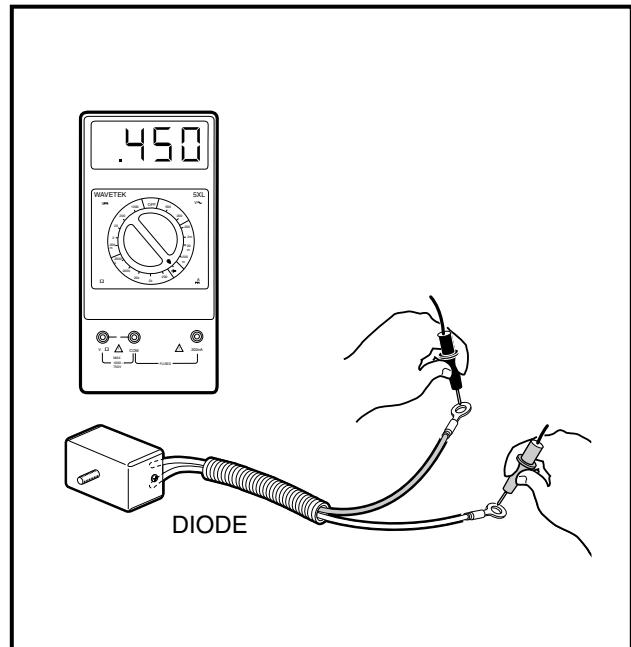

Figure 11-38 Diode Test – Probes Reversed
4. Reverse the multimeter probes and note the reading. With the black (-) probe of the multimeter to the red lead of the diode and the red (+) probe of the multimeter to the white lead, the meter should read approximately 450 mV, however, a range of 400-500 mV is acceptable (**Figure 11-38, Page 11-33**).